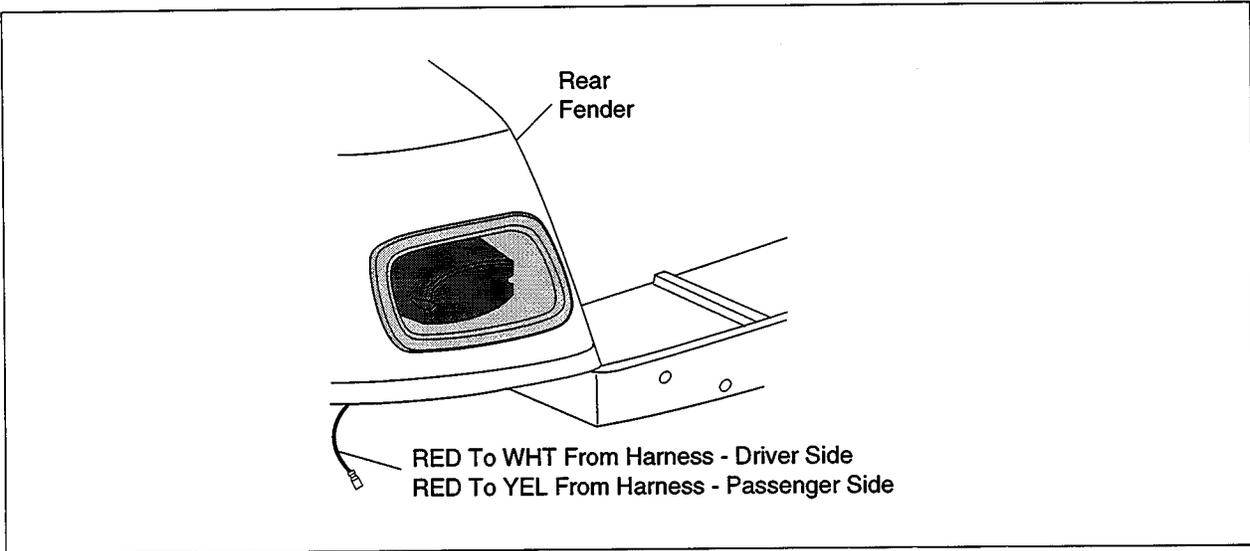

Fig. 3
D. CONNECT TAIL LIGHTS (See Fig. 3)
NOTE: Each front turn signal and its adjacent marker light share the same connector. The turn signal lights are connected to electrical harness when marker lights are installed and connected. (See Fig. 3)